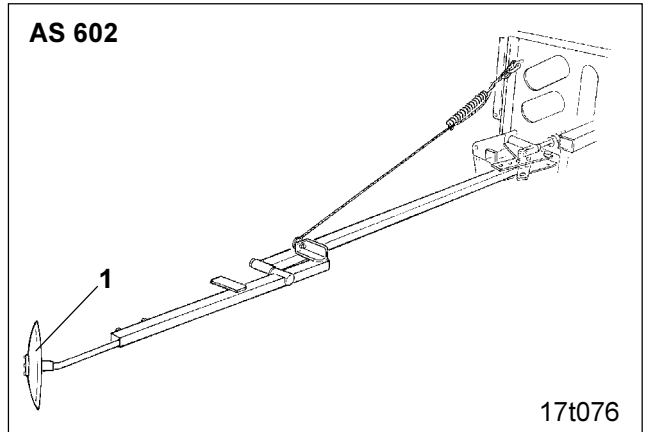
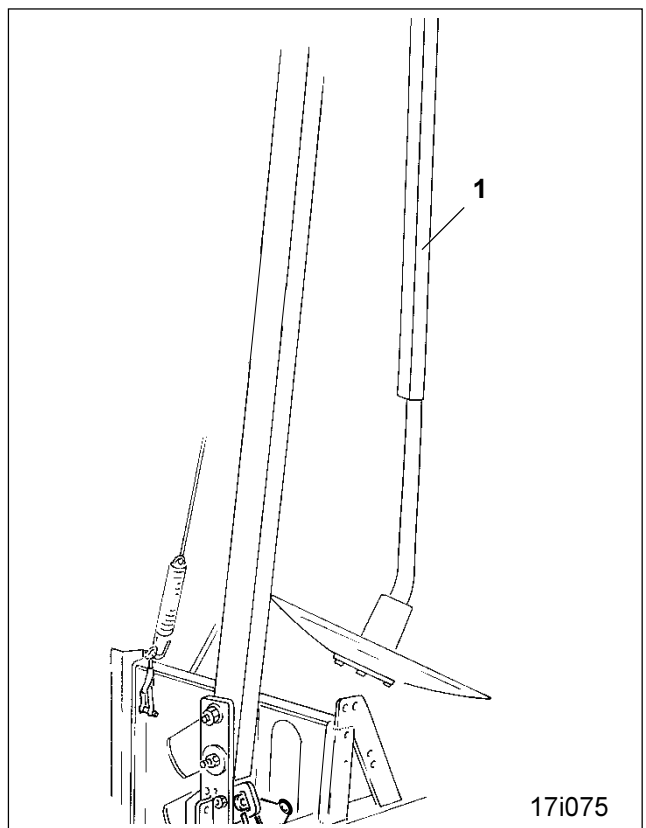

Fig. 24.1
Fig. 24.2
The implement is equipped with two hydraulically actuated track markers (Fig. 24.1) for marking a trace in the soil in line with the tractors' centre. After turning at the headlands the tractor follows the centrally marked trace when travelling the next bout.
The tract is marked during sowing from one marker disc (Fig. 24.1/1).
After turning on the headlands one marker (Fig. 24.2) is lifted up and the opposite marker drops down and begins to operate.
- are brought from the transport position (Fig. 24.2) into the operating field position (Fig. 24.1) or vice versa